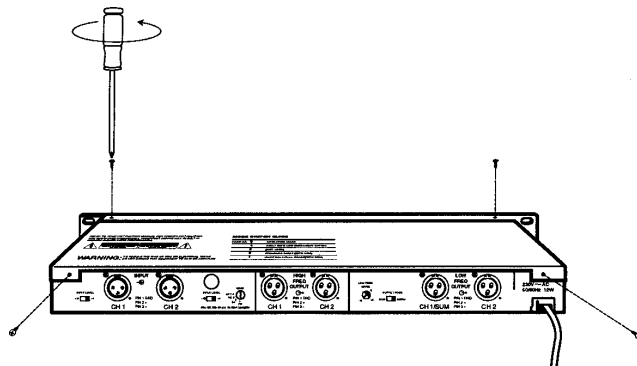

Figure 8. Cover and screw removal
A. Turn the controller so that its rear panel faces you. See **Figure 8**.